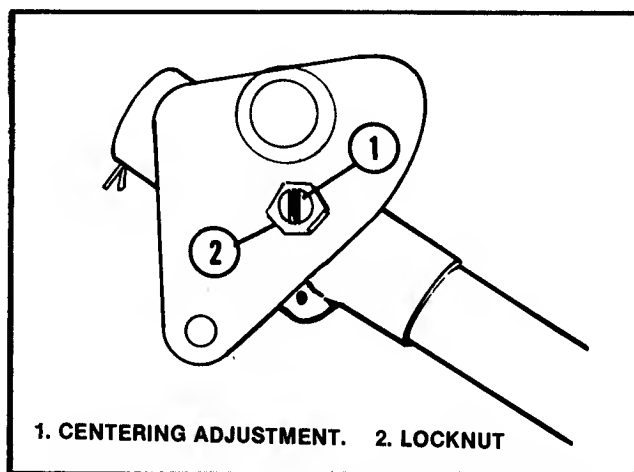

FIG. 2.7 -- STEERING GEAR ADJUSTMENT
8. Back out adjusting screw to eliminate any binding of steering shaft and secure in this position with locknut, Fig. 2.7